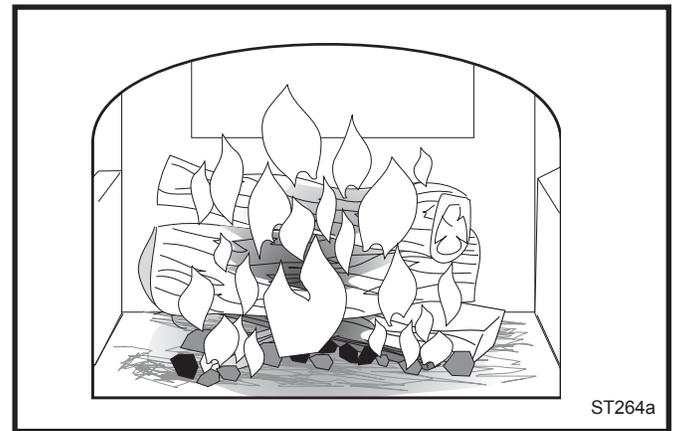

Fig. 41 Add full size logs when the ember bed is 3" (75mm) deep.
5. Position the charcoal in the middle of the firebox (Fig. 41) then load wood — smaller, split pieces first. Increase the amount of fuel you load into the stove as you become familiar with your stove and the heating needs of your home.